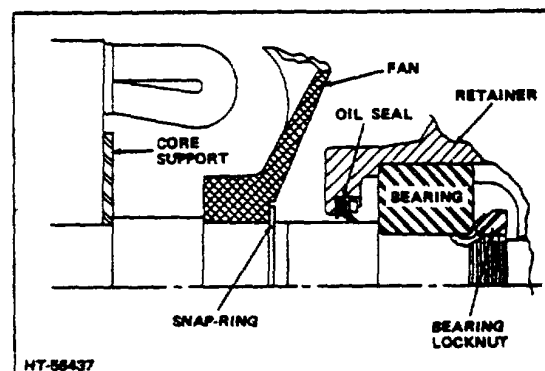

Figure 9-1. Bearing Retainer and Oil Seal
6. Install seal and O-ring in bearing retainer. Oil seal lip must be as shown in Figure 9-1. Install the bearing retainer on the shaft.